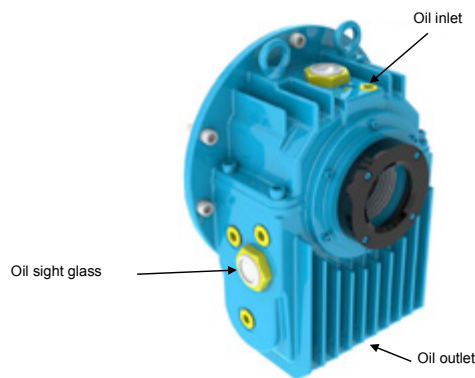

Figure 8.3 - Sleeve bearing
- Drain the oil through the drain hole located at the bottom of the bearing (see Figure 8.3);